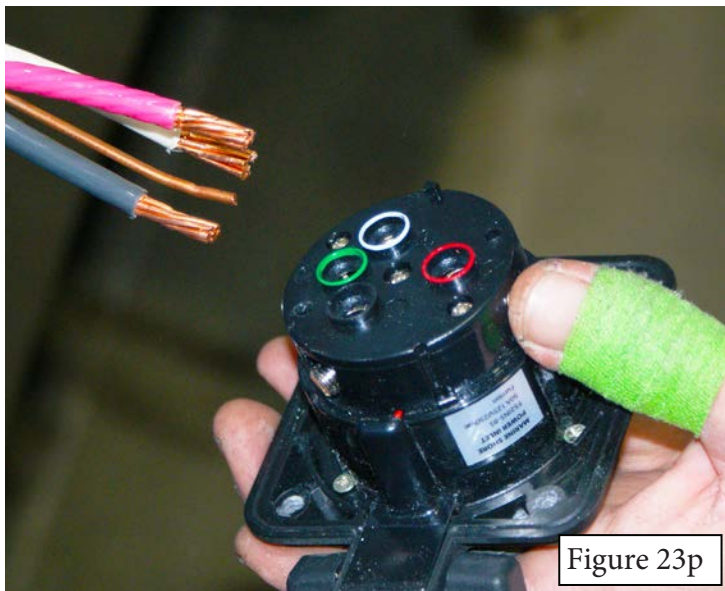

Figure 23p
9. Pull the wiring out of the back of the receptical (Figure 23p). Cap the wires and insert them back through the hole in the sidewall. Set receptical and all associated parts aside for later reinstallation (Figure 23s).